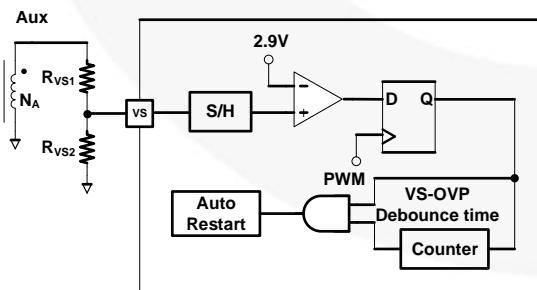

Figure 46. VS-OVP Protection Circuit
VS over-voltage protection prevents damage caused by output over-voltage condition. It is operated in Auto-Restart mode. Figure 46 shows the internal circuit of VS-OVP protection. When abnormal system conditions occur, which cause VS sampling voltage to exceed  $V_{VS-OVP}$  (2.9V) for more than 2 consecutive switching cycles ( $N_{VS-OVP}$ ), PWM pulses are disabled and FAN602F enters Auto-Restart protection. VS over-voltage conditions are usually caused by open circuit of the secondary side feedback network or a fault condition in the VS pin voltage divider resistors. For VS pin voltage divider design,  $R_{VS1}$  is obtained from Equation (10), and  $R_{VS2}$  is determined by the desired VS-OVP protection function as